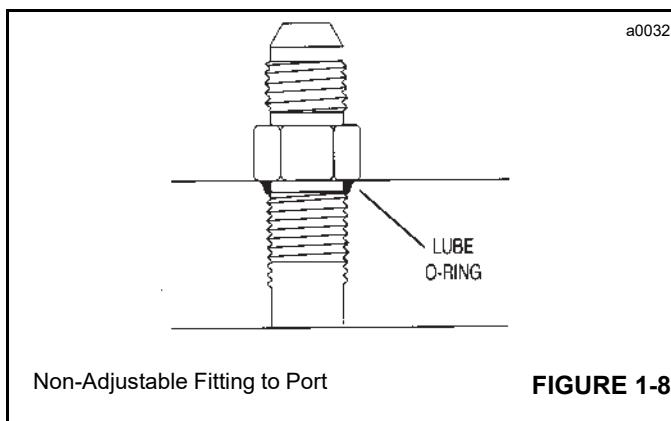

FIGURE 1-8
2. Lubricate O-ring with clean oil (Figure 1-8).